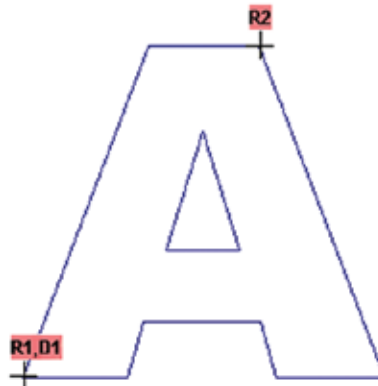

Figure 35. Digitizer point displayed on screen.
4. 301 Software will display the new digitize point on-screen (**Figure 35**) and will change the LED light to green.
8. 301 Software will display the second digitize point on-screen as a **DZ** to **RZ** (**Figure 35**) and will change the LED light to green.